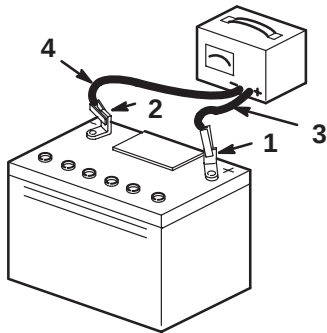

Figure 2
7. Charge the battery for 10 to 15 minutes at 25 to 30 amps or 30 minutes at 4 to 6 amps (Fig. 2).
8. When the battery is fully charged, unplug the charger from the electrical outlet, then disconnect the charger leads from the battery posts (Fig. 2).